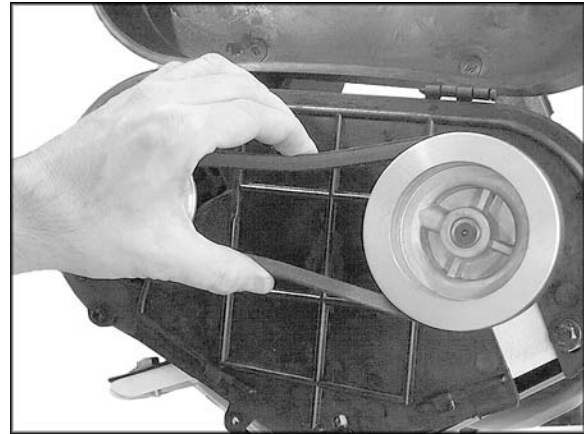

Figure 17
5. Check the tension by using moderate finger pressure about midway between the pulleys. The belt should deflect about 1/2". See Figure 17.